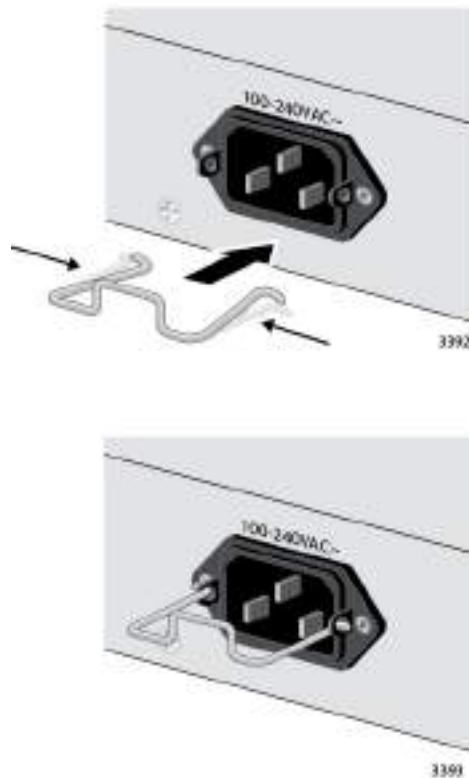

Figure 45. Installing the Retaining Clip
1. To install the power cord retaining clip, position it with the “u” part facing down, press in the sides, and insert the ends of the clip into the holes in the retaining bracket on the AC connector. See Figure 45.